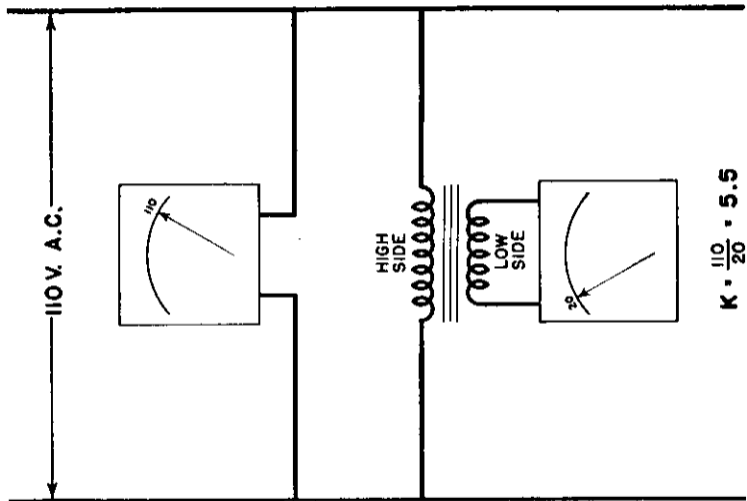

Fig. 4
**Transformer Multipliers.** On AC voltmeters only a transformer may be used as a voltmeter multiplier. To obtain the constant (K) for such a multiplier, read a voltage with and without the transformer multiplier in circuit. Divide the reading taken without the multiplier transformer in use by the reading with the multiplier transformer in use to obtain the (K). (See Figure 4.) To obtain the true voltage when using the multiplier with this same voltmeter, multiply